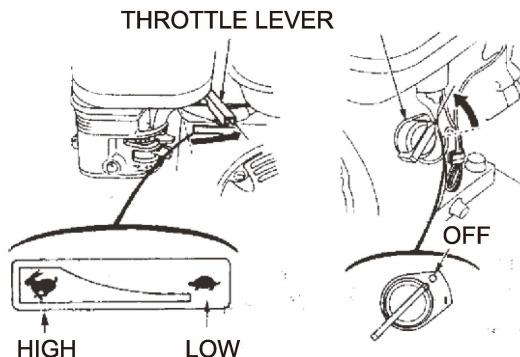

Fig.11
- (1) Move throttle lever to right side.
- (2) Set engine switch to "OFF". See figure 11.
- (3) Close fuel valve.